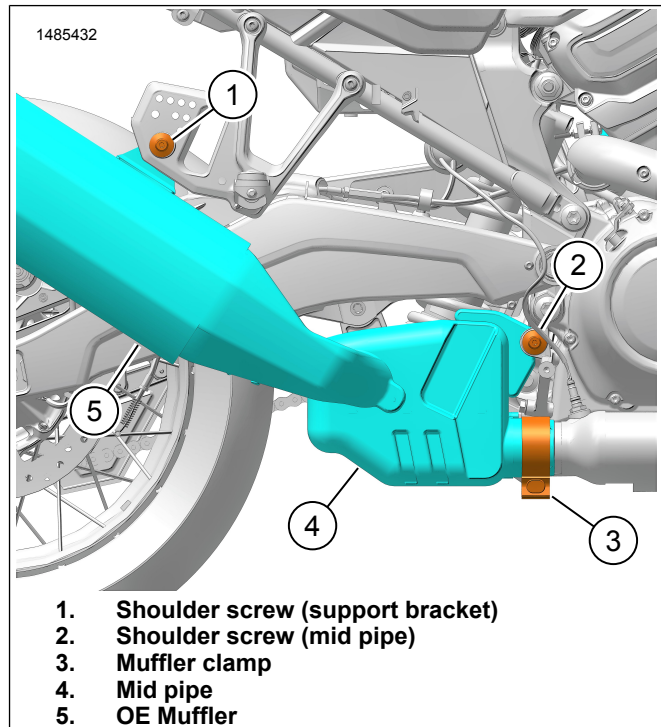

Figure 3. OE Exhaust Assembly
1. Figure 3 Loosen muffer clamp (3).
2. Remove shoulder screw (2) from mid pipe bracket. Save for later use.
3. Remove and discard shoulder screw (1) from support bracket.
- a. Discard OE muffer clamp (3).